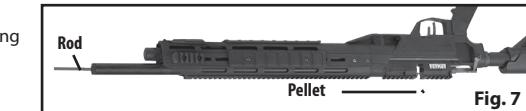

Fig. 7
8. Removing a Jammed Pellet (Fig. 7)
4. With the bolt in the rearward position insert a ramrod of the proper size into the barrel (start at the muzzle). (Fig. 7) The barrel could be damaged if the proper sized cleaning rod is not used.